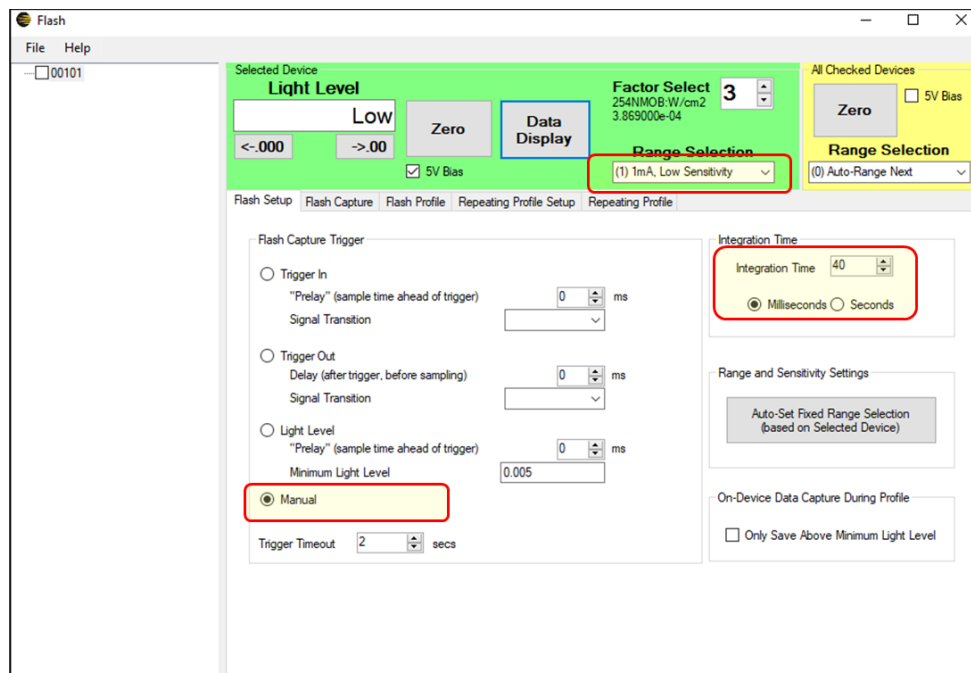

Figure 11. Windows Flash application manual flash capture.
1. Configure the Windows Flash Application: 1mA, Low Sensitivity range; Manual Flash Capture Trigger, and an Integration Time of 40 milliseconds (see highlighted items in Figure 11).